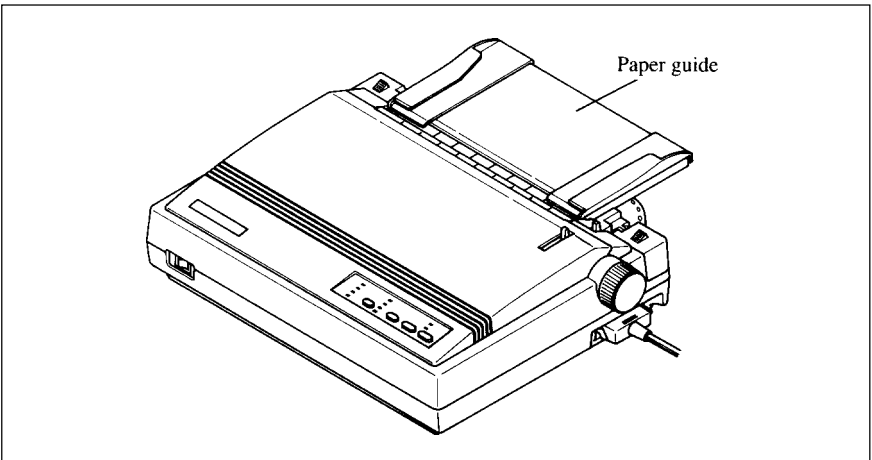

Figure 3-7. Close the rear cover, then set the paper guide horizontally.
- Close the rear cover, then set the paper guide in the horizontal position, as shown in Figure 3-7. This will separate the printed from the unprinted paper.